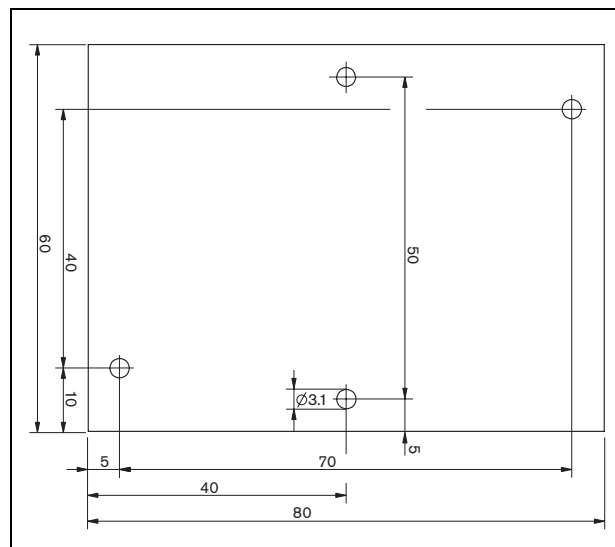

figure 12.5: Supervision-slave PCB dimensions
- 1 Use the holes in the supervision-slave (see figure 12.5) to install it in a loudspeaker. The coils on the supervision-slave PCB must be kept at a distance of 30 mm or more from the loudspeaker magnet and a distance of 50 mm or more from the loudspeaker transformer, otherwise the magnetic fields can disturb the correct operation of the supervision-slave.